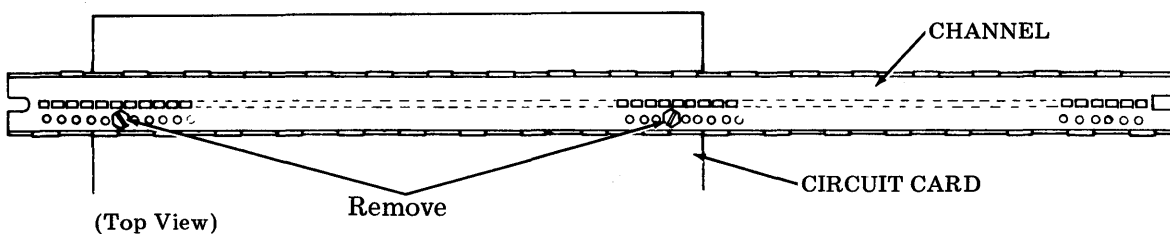

Fig. 28—Channel Removal
H. Channel (RO)
- (c) Remove the two screws securing the circuit card to the channel (Fig. 28).